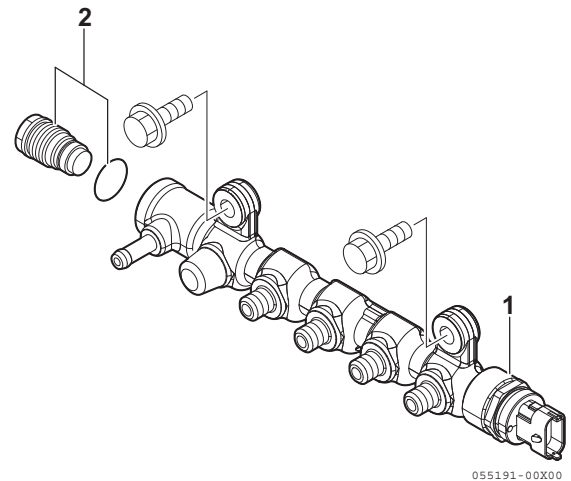

Figure 7-11
Spare parts for the rail pressure sensor (Figure 7-11, (1)) and the pressure limiting valve (Figure 7-11, (2)) are available for replacement. See the below table for the part number and the tightening torque.